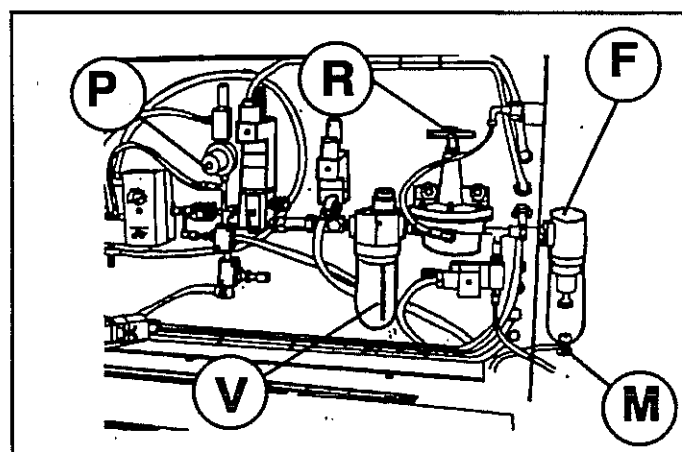

Fig.2.20
The working pressure of the machine is 6 atm. If necessary operate on pressure regulator (R fig.2.20).
Avoid the formation of condensate inside the filter. In the case of this happening, empty it, rotating the lower knob (M) of the filter (F fig.2.20).
To obtain intermediate pressures, extract the protection cover on the left and adjust the regulation knob (P fig.2.20).